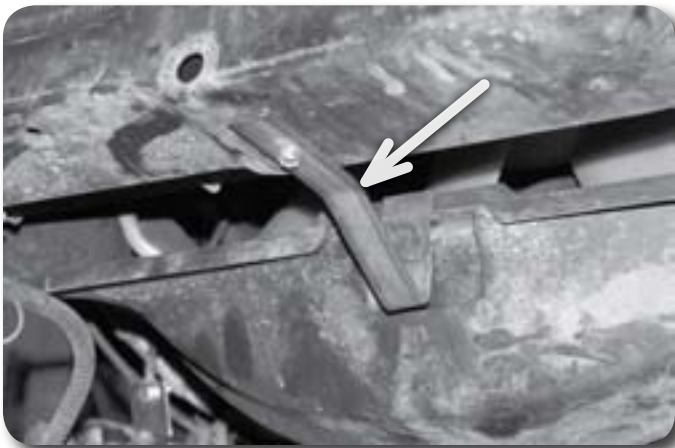

Figure 39
70. Locate the lower fan shroud bracket in the shroud and against the lower surface of the core support. Using the bracket as a template, mark the mounting hole on the core support. Drill a 1/8" hole at the mark **Figure 39**. Mount the shroud bracket to the core support with a #12 x 3/4" sheet metal screw.